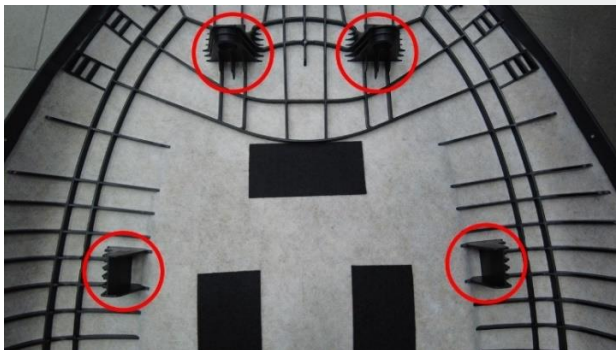

Figure 3 – Clips at top of seat back shell
- **Standard seat:** release the clips (x8) that attach the seat back shell to the seat (Figures 3 and 4), and then remove the seat back shell.